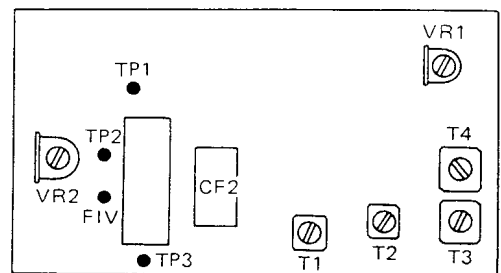

Fig. 20 FM-IF unit
- 2) Change the SSG output signal, making it exhibit a frequency deviation of 1 kHz or 5 kHz. Adjust T3 and T4 (Fig. 20) to obtain the best possible waveform display and to maximize the FM output in each case of frequency deviation
Connect the AF VTVM to FIV terminal of FM-IF unit, referring to Fig. 20, and adjust VR2 for 20 mV reading.